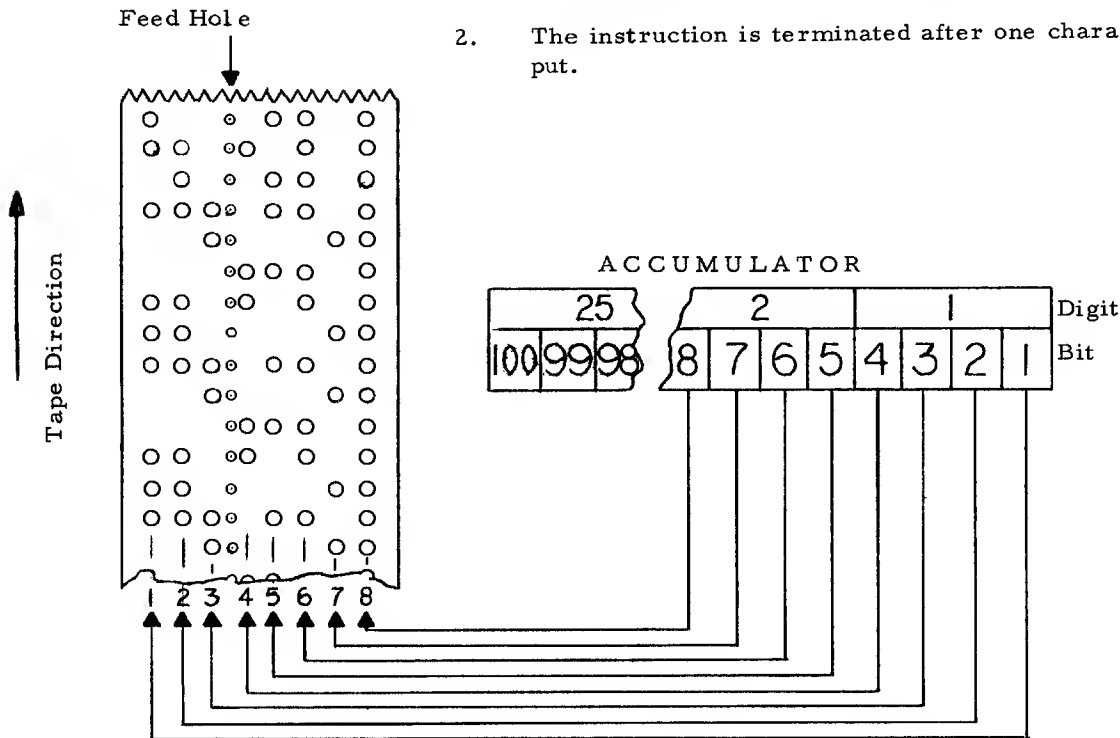

FIGURE 2.
1. The 8 least significant bits of the accumulator (the two least significant digits) are output to the punch; the least significant bit of the accumulator is output as tape level 1, the most significant of the 8 bits is output as level 8. (See Figure 2.) The information is output exactly as it appears in the accumulator without conversion of any sort.